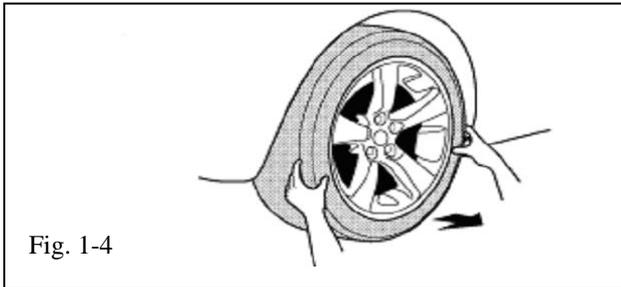

Fig. 1-4
- +** (h) Remove remaining 4 OE wheel and tire assembly from vehicle (Fig. 1-4). Wear safety glasses while removing wheels.